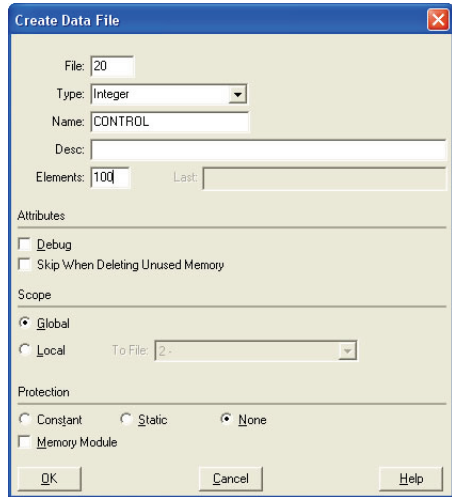

Figure 77: Creating a Control File
- a) Right click Data Files and select New... The "Create Data File" dialog box appears (refer to Figure 77).